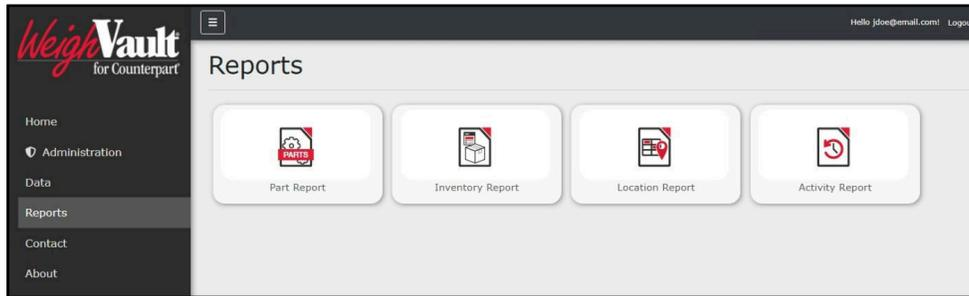

Figure 6-3. Reports Page
3. The Reports page displays (see Figure 6-3 on page 56).